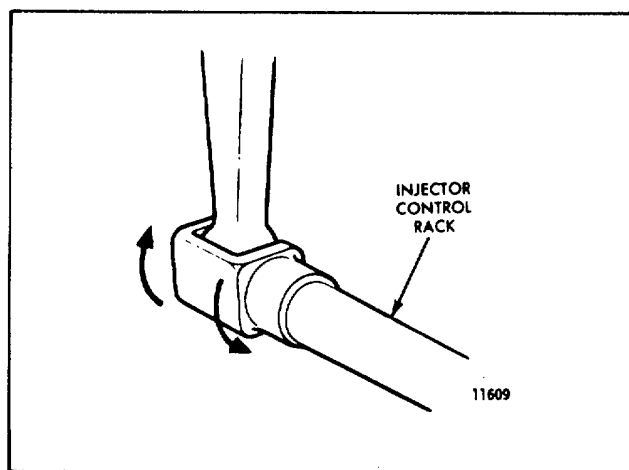
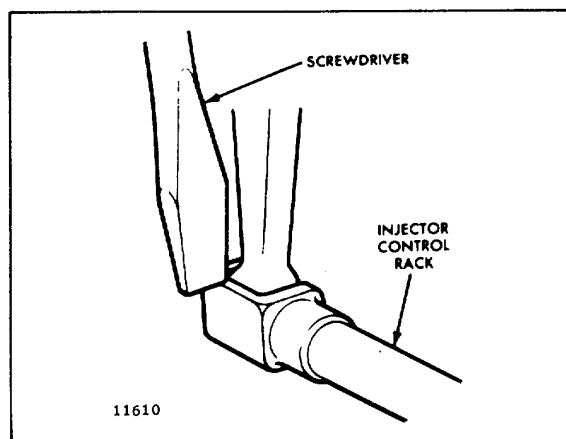

Fig. 3 - Checking Rotating Movement of Injector Control Rack
Fig. 4 - Checking Injector Control Rack "Spring"
4. To be sure of proper rack adjustment, hold the stop lever in the run position and press down on the injector rack with a screwdriver or finger tip and note "rotating" movement of the injector control rack (Fig. 3). Hold the stop lever in the run position and, using a screwdriver, press downward on the injector control rack. The rack should tilt downward (Fig. 4) and, when the pressure of the screwdriver is released, the control rack should "spring" back upward.